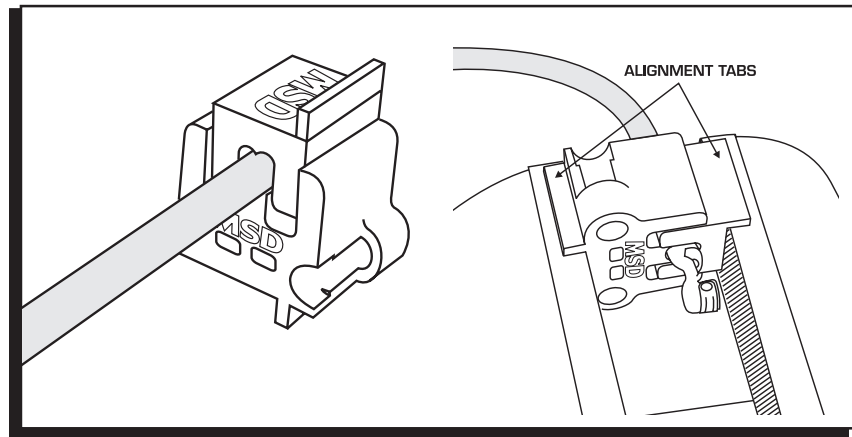

Figure 10 Crimping the Terminal.
- Slide the other part of the Mini-Stripper-Crimper over the wire terminal and lightly press them together (Figure 10).
- Put the assembly into a vise making sure the alignment tabs are on the outside edge of the vise jaws (Figure 10).